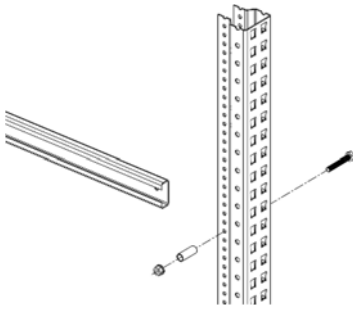

Fig. 5
5. Insert the tie beam and loosely insert screws. (Fig. 5)